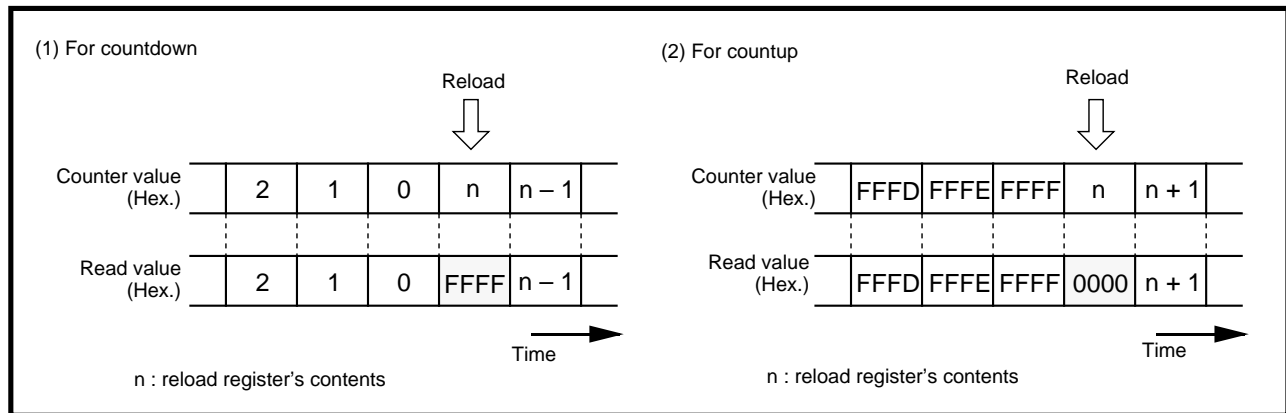

Fig. 7.4.9 Reading timer Aj register
2. While counting is in progress, by reading the timer Aj ($j = 0$ to 2, 4, 9) register, the counter value can be read out at any timing. However, if the timer Aj register is read at the reload timing shown in Figure 7.4.9, the value “FFFF₁₆” (at an underflow) or “0000₁₆” (at the overflow) is read out. If reading is performed in the period from when a value is set into the timer Aj register with the counter stopped until the counter starts counting, the set value is correctly read out.